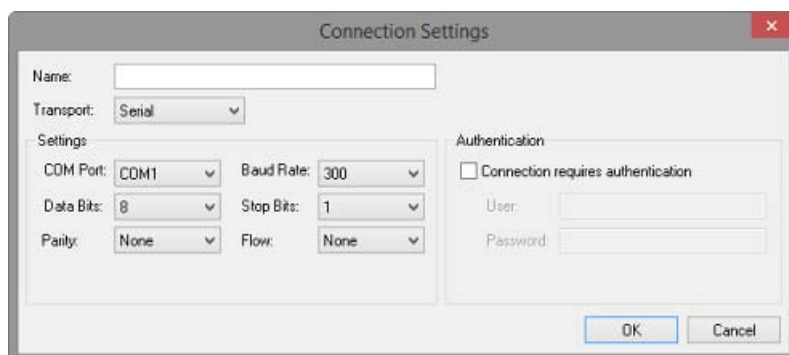

FIG. 413 Connection Settings dialog (Serial Transport selected)
2. Click **New** to open the *Connection Settings* dialog (FIG. 413):